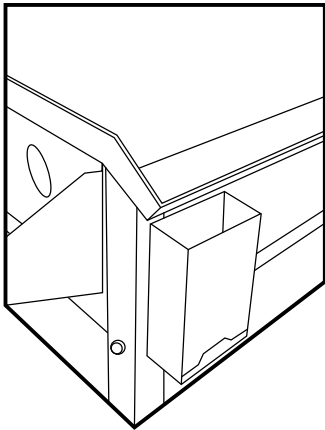

FIGURE F9
4. Place the waste container under the spout, in the holder, on the front of the unit. Ensure container is properly located so that it cannot be accidentally dislodged. See Figure F9 alongside.